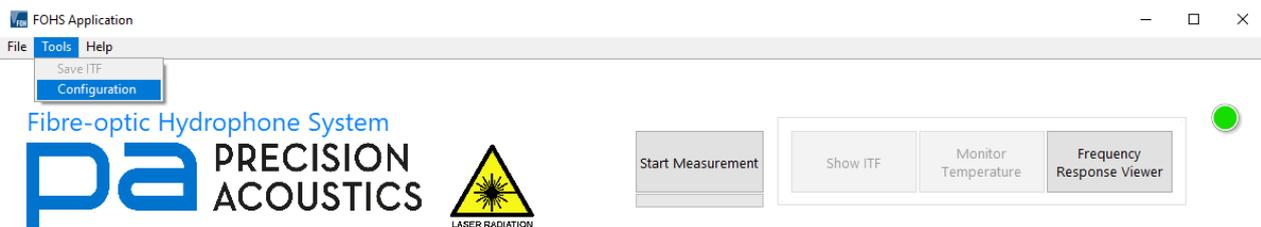

Figure 17. Location of configuration menu.
- 3) Open the FOHS Application. Head to tools > Configuration as depicted in the picture below (Figure 17).